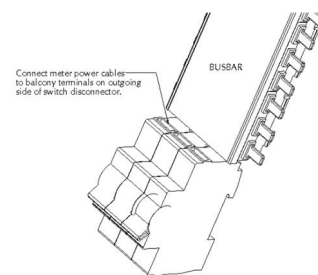

Fig. 2
**Both STD and MID power wiring will be terminated to the balcony terminals on the outgoing side of the switch disconnector, see fig. 2 for more information.**